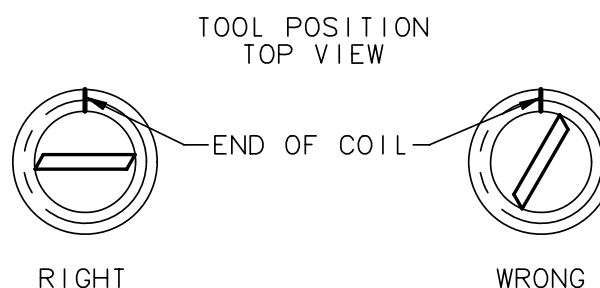

FIGURE 507
- (1) Refer to Figure 507 and remove damaged inserts by applying the HeliCoil extracting tool to the insert (position tool with relation to end of coil as shown), striking the head of the tool a light blow and turning it counterclockwise, maintaining steady downward pressure